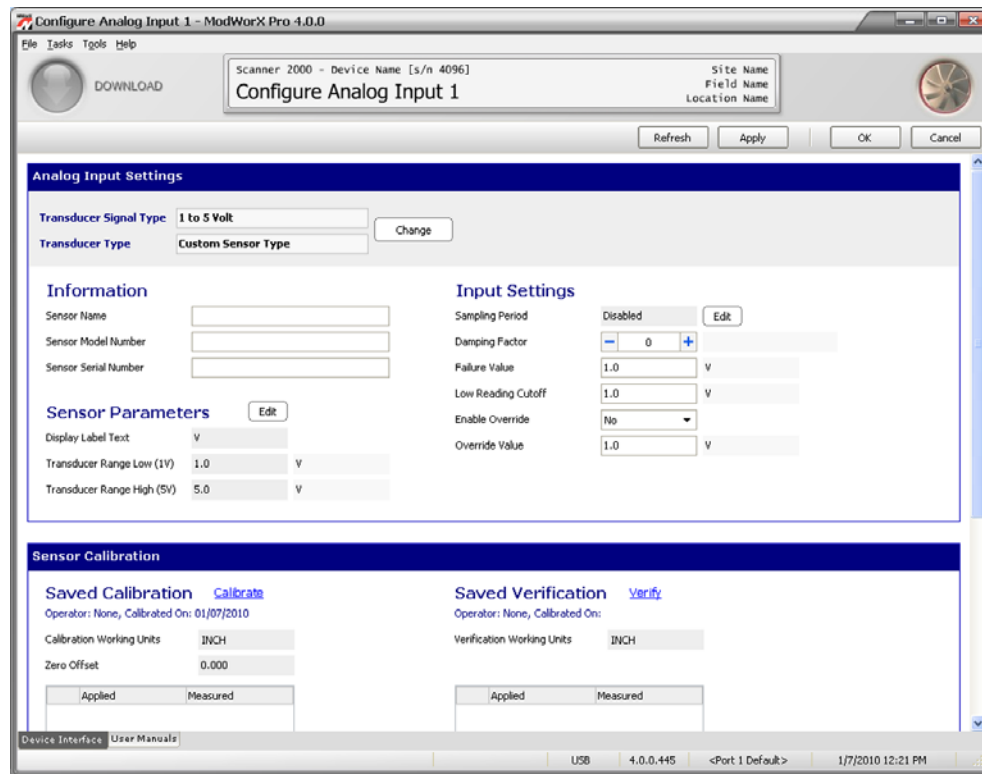

Figure 6.20
- a. Click the **Edit** button next to Sensor Parameters (Figure 6.20).